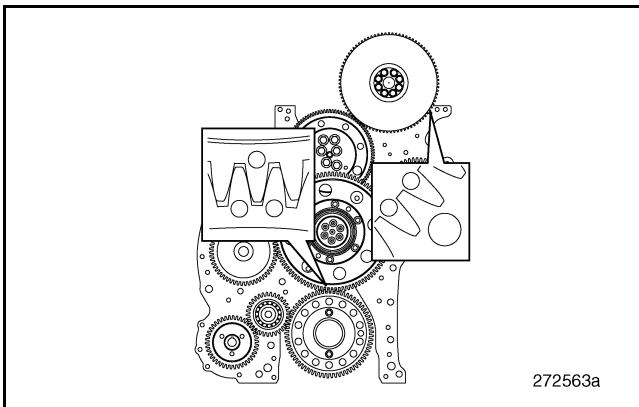

Figure 327 — Camshaft and Double Idler Gear Check
- Check that the intermediate idler gear timing marks align with the timing marks on the crankshaft gear teeth as shown in Figure 327. Check that the camshaft is positioned at TDC by having the TDC marking on the camshaft aligned with the markings on the No. 1 camshaft bearing cap.